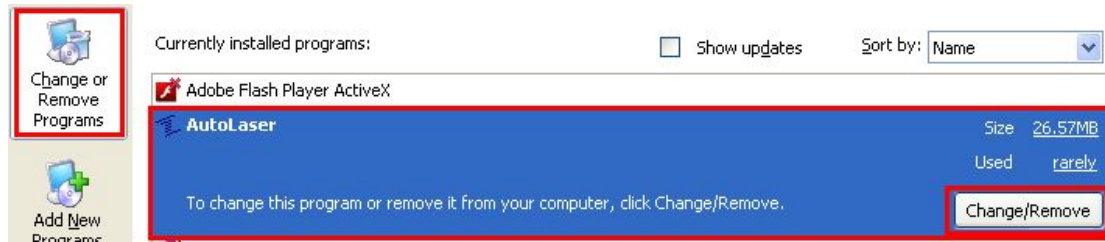

Figure 1-24
- 3) Find [AutoLaser] in [Modify or Delete Programs] as shown in Figure 1-24 and click the "Modify/Delete" button at the right side.